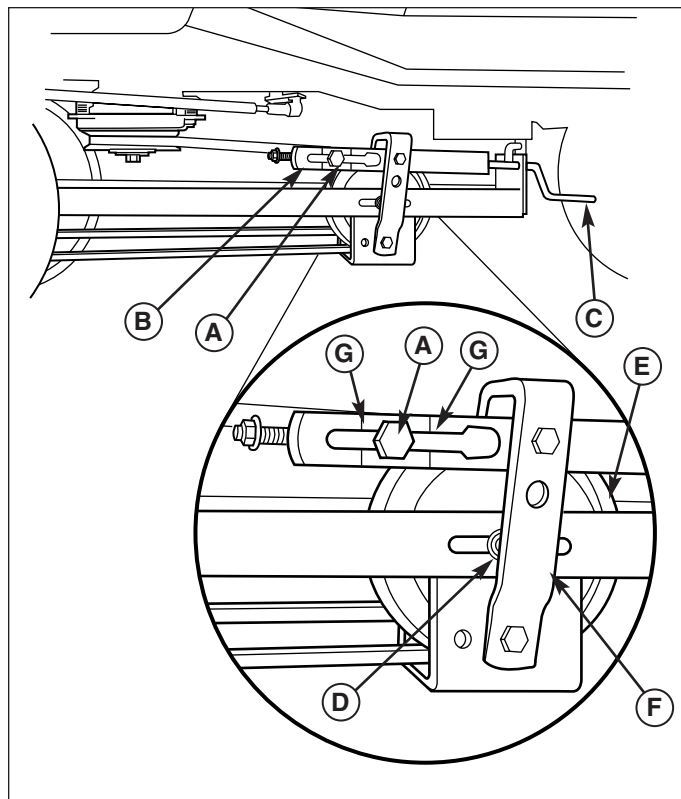
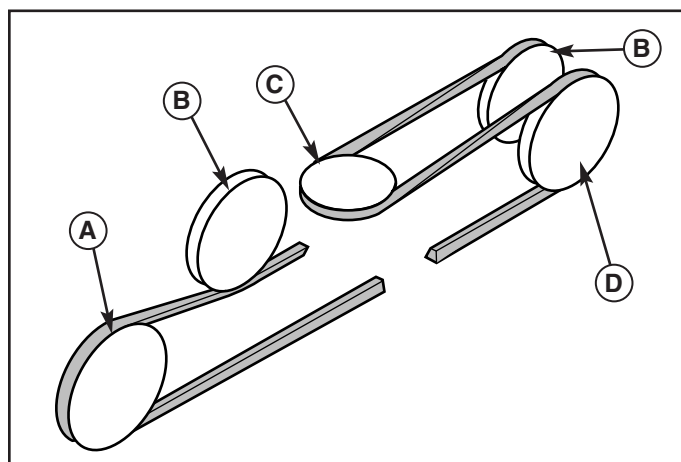

Figure 26. Adjusting Belt Tension
Figure 27. Belt Routing
7. Use the trunnion handle (C, Figure 26) to relieve belt tension. Remove the belt from the snowthrower drive pulley (D, Figure 27).
3. Route the drive belt as shown in Figure 27. Note that the back of the belt rides in the back-side idler (B).
4. With the snowthrower drive belt installed, trunnion (A, Figure 26) should be between the marks (G) on spring tension bracket (B) for correct belt tension. Turn belt tension handle (C) to move trunnion forward or rearward until between marks.